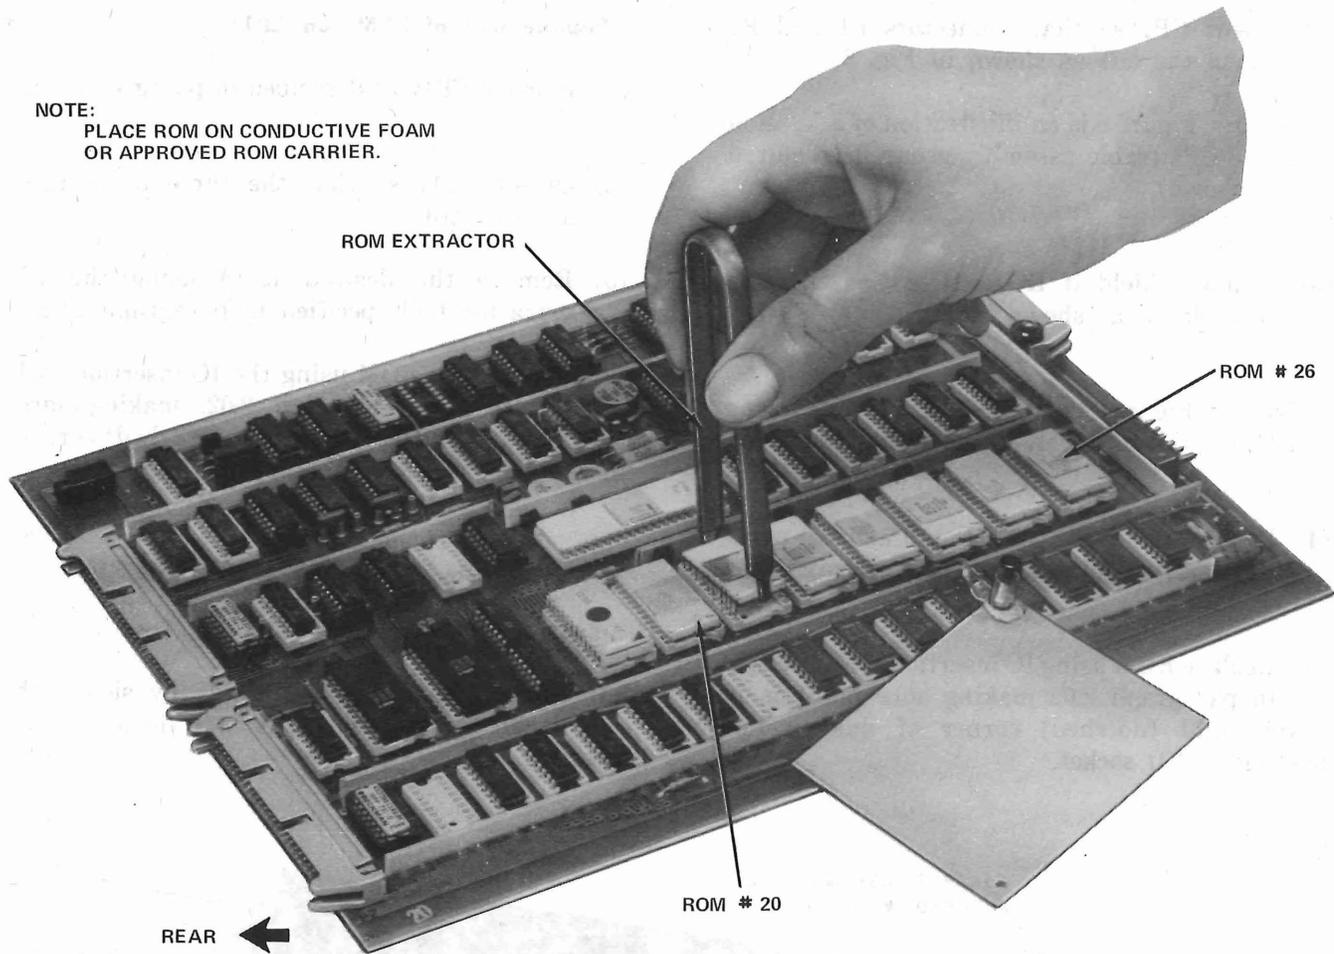

Fig. 9—Circuit Pack CP1 With ROM Shield Removed—ROM Removal
Note: Figure 9 is an illustration of a Version 1 CP1 (cable assembly group 28 not required).
- (4) Remove required ROM (Fig. 9 and 10) using IC removal tool specified in paragraph 2.02.
- (5) Replace ROM using IC insertion tool specified in paragraph 2.02 making sure pin 1 is in lower right (notched) corner of dual in-line package (DIP) socket.